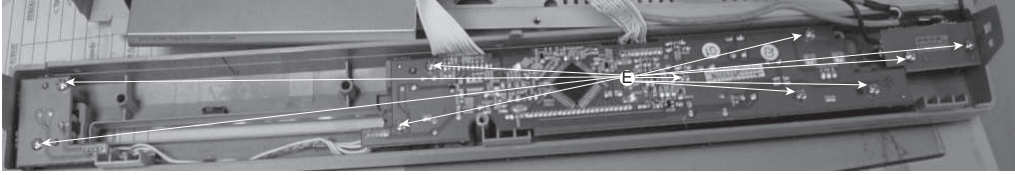

Figure 6
- 1) Loosen 10 screws "E" at the top of control board as shown in figure 6